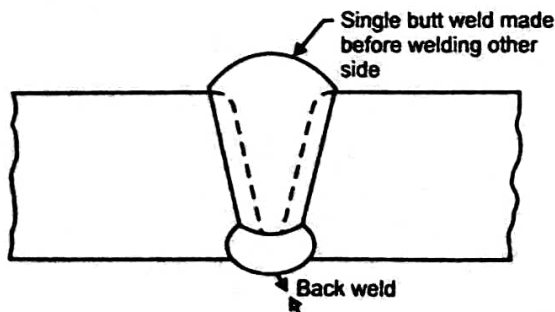

Fig. 5.50. Back Weld
**Back Weld :** It is a weld deposited at the back of a single-butt weld after the main weld. (Fig. 5.50).